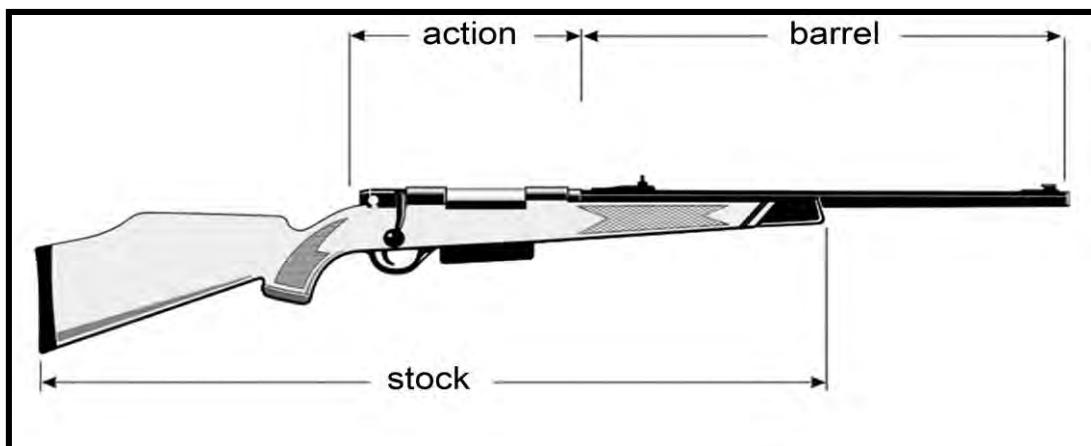

Figure 12. Bolt-action Rifle
- b. Modern firearms consist of three major parts: the barrel, the action and the stock (Figures 12 and 13).